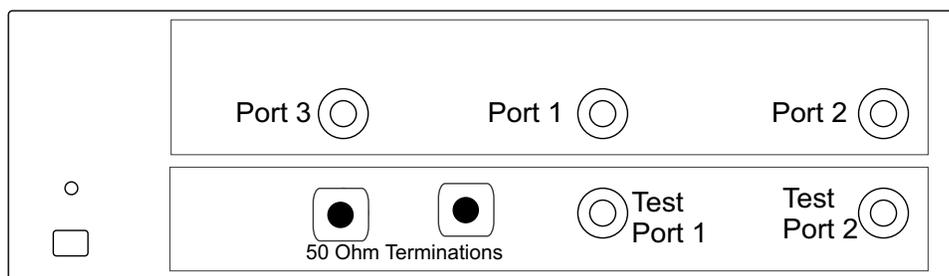
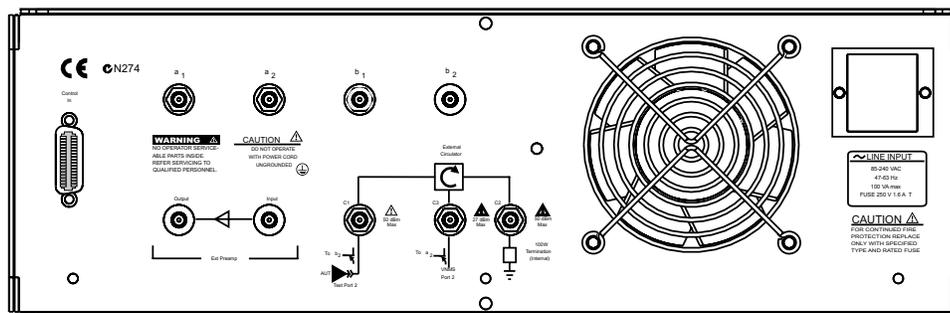

Figure 4-4. Test Set Front Panel
Figure 4-5. Test Set Rear Panel
Step 3. Refer to Figure 4-4 and Figure 4-5 for connector locations.